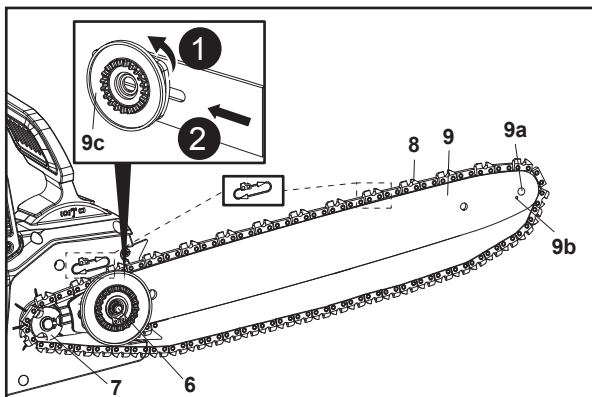

Fig. 3
5. Rotate the tensioning wheel (9c) anticlockwise to slide it to the left to the end of slot (Fig.3, steps 1, 2). Align the saw chain (8) and guide bar (9) assembly with the drive sprocket (7) and the mounting bolt (6). Lay the saw chain (8) around the drive sprocket (7) and then lower the guide bar (9) to install it to the mounting bolt (6) (Fig. 3).